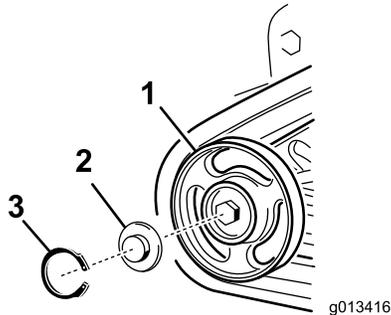

Figure 46
4. Remove the snap ring and cap from a road wheel (Figure 46).
5. Check the grease under the cap and around the gasket (Figure 46). If it is dirty, gritty, or depleted, clean out all of the grease, replace the gasket, and add new grease.
7. Place the greased road wheel cap over the bolt head (Figure 46).
8. Secure the road wheel cap with the snap ring (Figure 46).